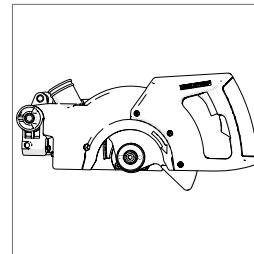

Fig. 1c
- The Cutting Head in the locked down position. (**Fig. 1c**)